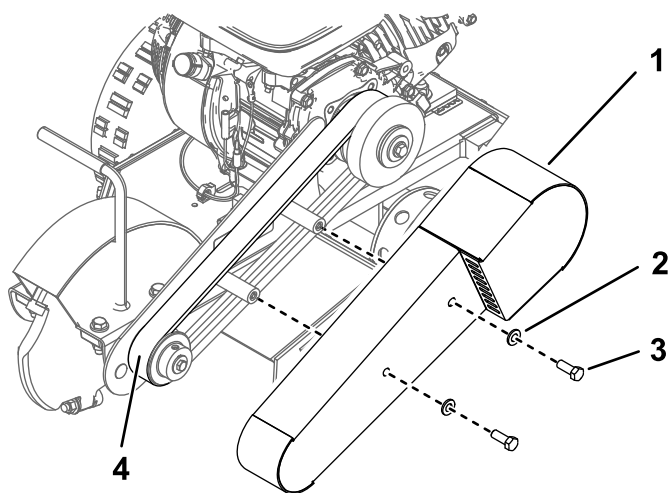

Figure 23
3. Remove the 2 bolts, 2 washers, and belt guard (Figure 23).
5. If the belt needs adjustment, refer to Adjusting the Drive Belt \(page 20\). If the belt does not need adjustment, install the belt guard as shown in Figure 23.
3. Remove the belt guard (Figure 23).
- Remove the 2 bolts, 2 washers, and belt guard (Figure 23).
- Install the belt guard (Figure 23).